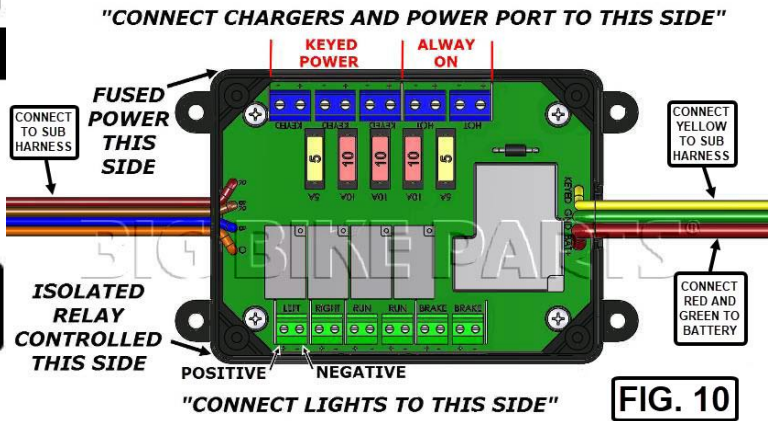

FIG. 10
17. RUN THE 4 WIRES FROM THE LEFT SIDE AND THE YELLOW WIRE FROM THE RIGHT SIDE OF THE ISOLATOR BOX TO THE END OF THE HARNESS FROM STEP 12 (**FIG. 10**). *USE WIRE TIES TO SECURE AS NEEDED. (BE SURE WIRES DO NO INTERFERE WITH MOVING OR HOT COMPONENTS)*
19. USE THE BLUE WIRE SPLICES SUPPLIED TO CONNECT THE FIVE WIRES FROM STEP 17 TO THE ACCESSORY SUB-HARNESS (**FIG. 10**). MATCH THE CORRESPONDING COLORED WIRES FROM THE ISOLATOR BOX TO THE SUB-HARNESS WHEN SPLICING. **NOTE: TRIM WIRES FROM THE ISOLATOR BOX TO DESIRED LENGTH BEFORE SPLICING. DO NOT CUT WIRES FROM ACCESSORY SUB-HARNESS OR REMOVE END CAPS ON THE WIRES.**
29. USING **FIG. 10** AS A GUIDE TO LEARN WHAT EACH TERMINAL CONNECTOR IS TO BE USED WHEN ATTACHING ACCESSORIES. **NOTE: THE ISOLATOR BOX COVER ALSO HAS A DIAGRAM FOR THE TERMINAL BLOCKS.**